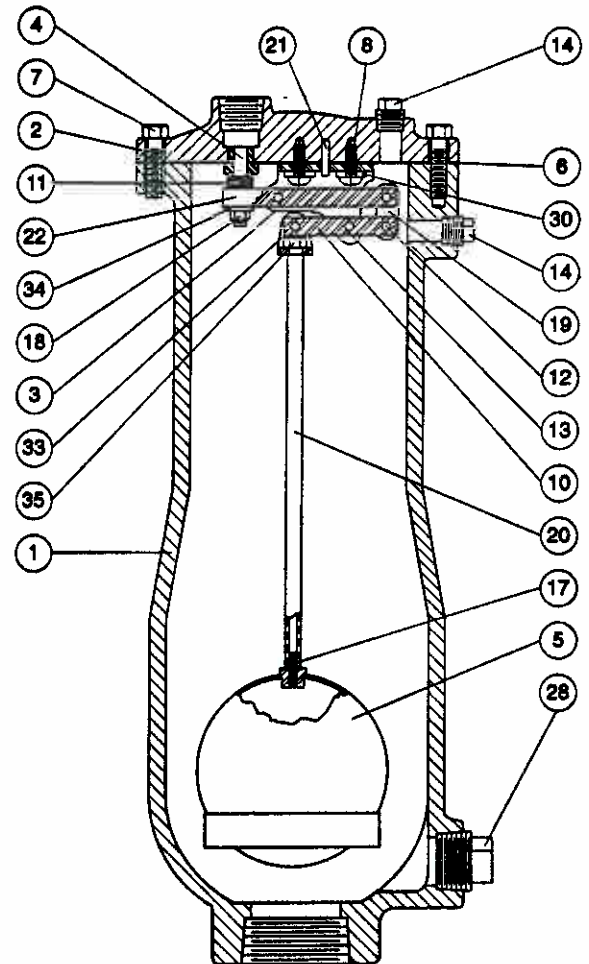

FIGURE 2. SEWAGE AIR RELEASE VALVE
The standard Sewage Air Release Valve body and cover are cast iron. See the specific Materials List submitted for the order if other than standard cast iron construction. All internal components are stainless steel with the exception of the orifice button which is resilient. The general details of construction are illustrated in Figure 2. The body (1) is threaded for connection to the pipeline. The seat (4) is threaded into the cast cover (2).
All parts must be cleaned and gasket surfaces should be cleaned with a stiff wire brush in the direction of the serrations or machine marks. Worn parts, gaskets and seals should be replaced during reassembly. Refer to Figure 2 on page 2.